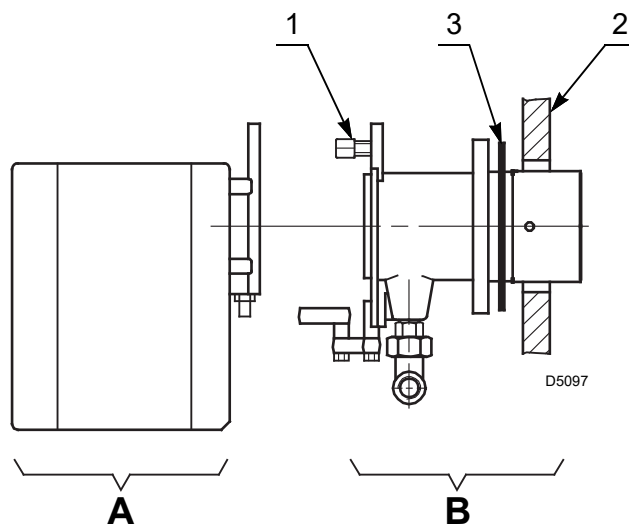

Fig. 9
- Separate the combustion head assembly from the burner body by removing nut 1 and removing the group A)(Fig. 9).
- Fix the group B)(Fig. 9) to the boiler plate 2), inserting the supplied insulating gasket 3).